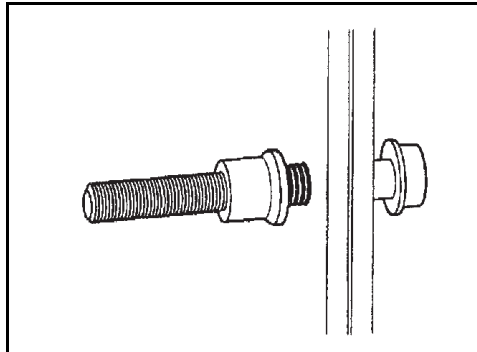

Figure 2.8 Place Collar Over
2. Place the collar over the fastener pintail (See Figure 2.8)